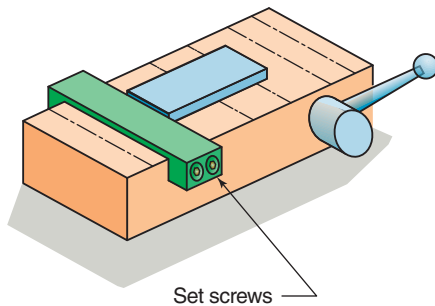

Figure 13-83 The setup.
10. Using Fig. 13-83 as a guide, describe or sketch the chuck accessory that would prevent slipping of this thin steel object. (LO 13-3)